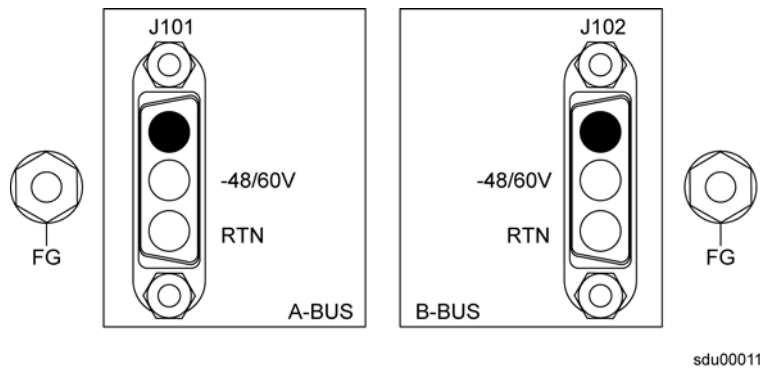

Figure 2-2. SSU-2000e Power Input Connector
Refer to Figure 2-2 for power connections. Pin 1 of each connector is not used. Pin 2 of each connector is  $-48/60$  VDC and pin 3 is the Return. The  $-48/60$  VDC power inputs have feed-through Pi-filters on each line through the front panel and DC Isolated from Frame and Logic ground. The power return connections are connected to Frame and Logic ground. Both the A-BUS and B-BUS power are fed to the individual module slots through the backplane.
2. Attach 1.29 mm2 (minimum) stranded wire to two DA3W3P connectors (supplied) as shown in Figure 2-2.